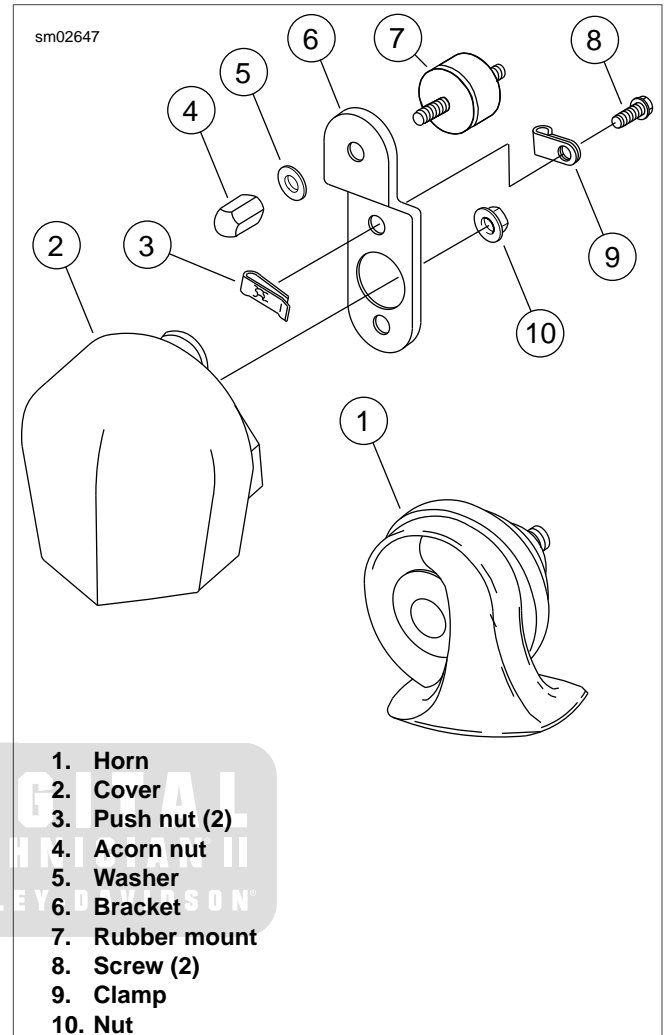
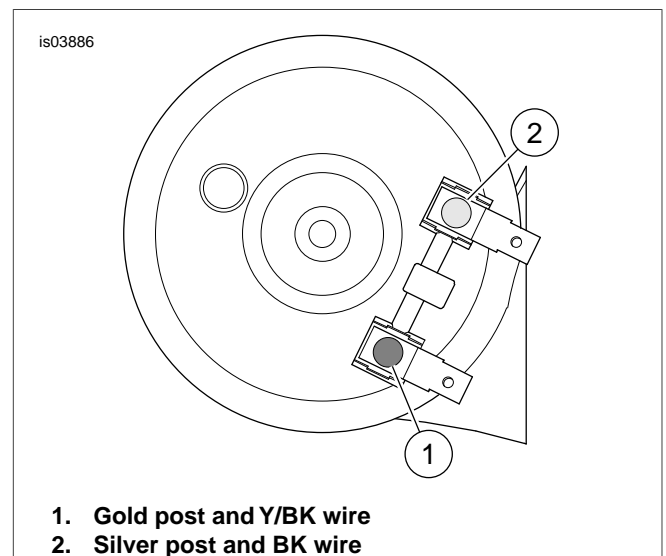

Figure 7-70. Horn
Figure 7-71. Horn Wiring
- See Figure 7-70. Remove nut (4) and washer (5) to detach horn bracket (6) from vehicle.
- See Figure 7-71. Disconnect wires from posts (1, 2) on back side of horn.
- See Figure 7-70. Remove screws (8) and nut (10) to detach horn from bracket. Free wires from clamp (9).
- Install **new** horn on bracket. Secure with screws (8), push nuts (3) and nut (10). Fold wires under clamp (9).
- See Figure 7-71. Attach wiring.
- Connect Y/BK wire to gold post (1).
- Connect BK wire to silver post (2).
- See Figure 7-70. Attach horn to vehicle using washer (5) and nut (4). Tighten nut to 10-15 ft-lbs (13.6-20.3 Nm). When tightening fasteners, be sure the horn does not contact the horn cover or other parts.